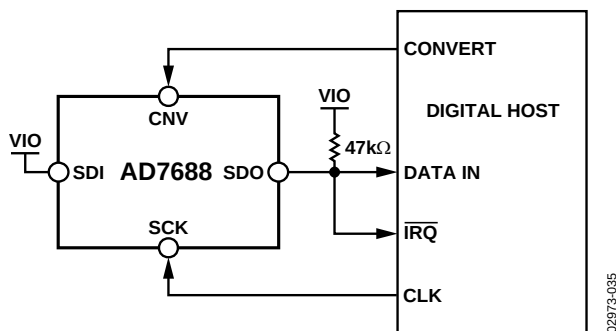
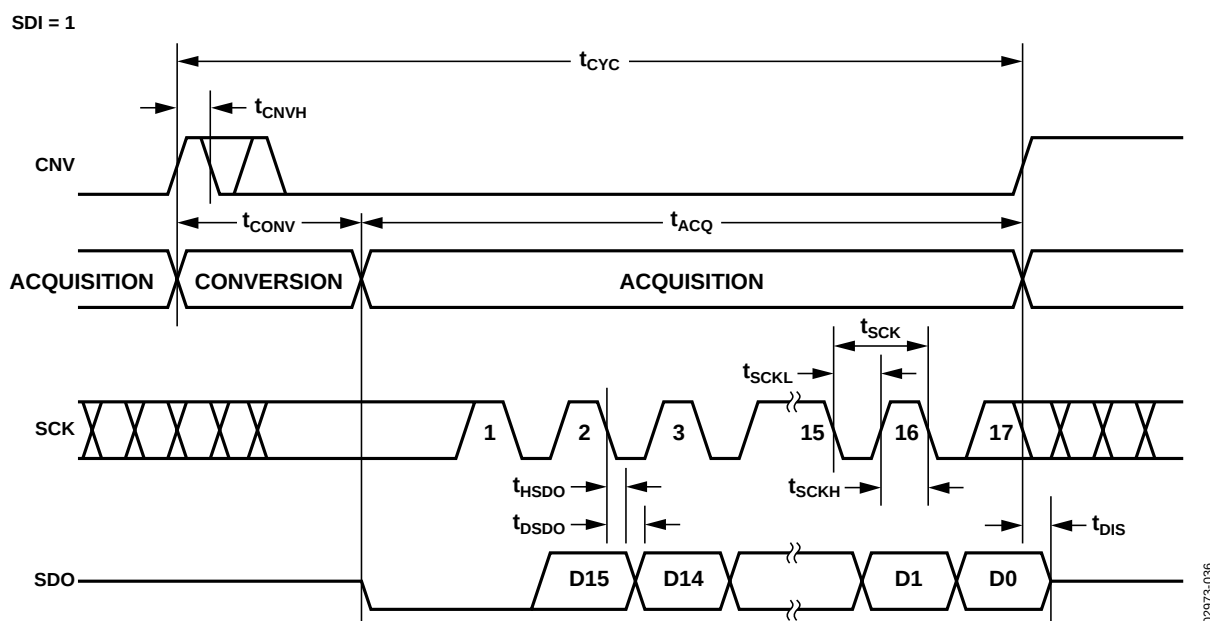
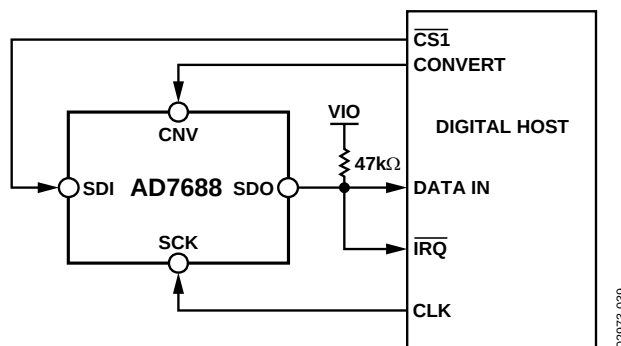
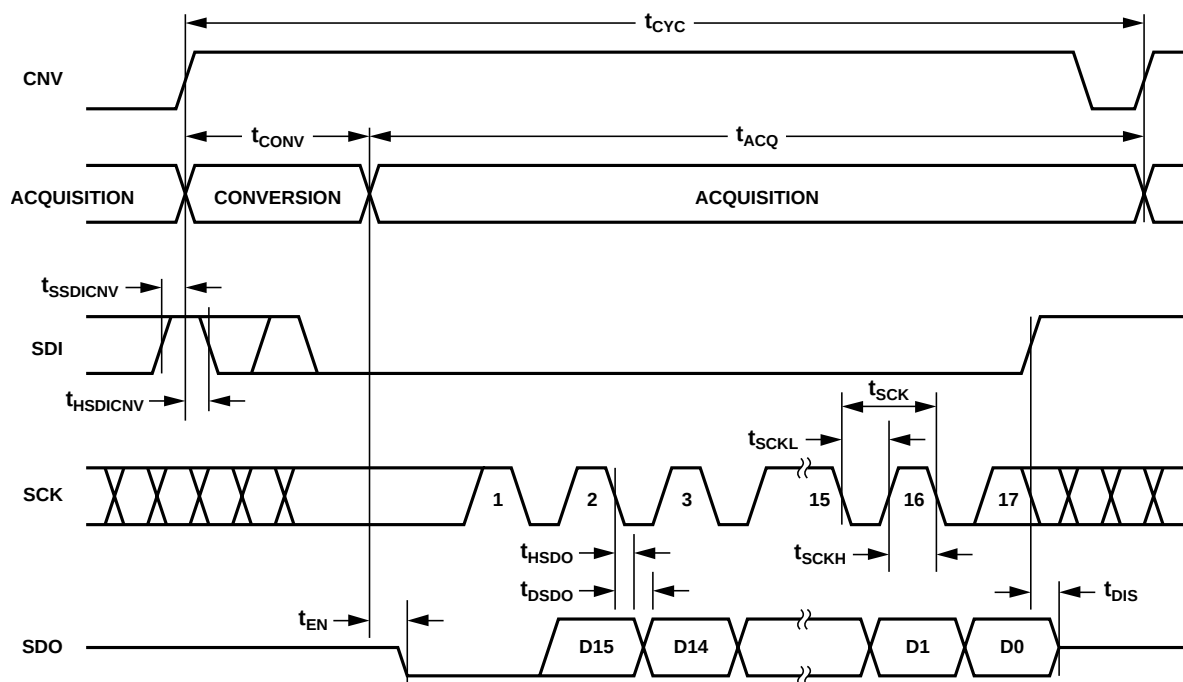

Figure 36. $\overline{\text{CS}}$ Mode 3-Wire with BUSY Indicator Connection Diagram (SDI High)
Figure 37. $\overline{\text{CS}}$ Mode 3-Wire with BUSY Indicator Serial Interface Timing (SDI High)
Figure 40. $\overline{\text{CS}}$ Mode 4-Wire with BUSY Indicator Connection Diagram
Figure 41. $\overline{\text{CS}}$ Mode 4-Wire with BUSY Indicator Serial Interface Timing
- In the $\overline{CS}$ mode, if CNV or SDI is low when the ADC conversion ends (Figure 37 and Figure 41).
The connection diagram is shown in Figure 36 and the corresponding timing is given in Figure 37.
The connection diagram is shown in Figure 40 and the corresponding timing is given in Figure 41.